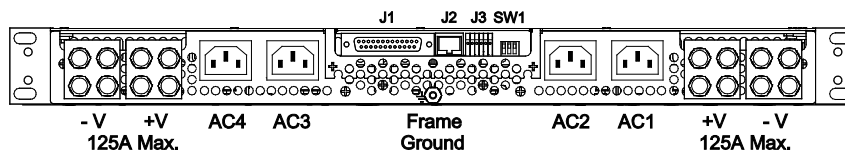

Figure 8a – Model TAUQR1U4A with IEC Connectors
15.2 Single Bus Power Shelves – Rear views of the single bus types are shown in figures 8a and 8b below.